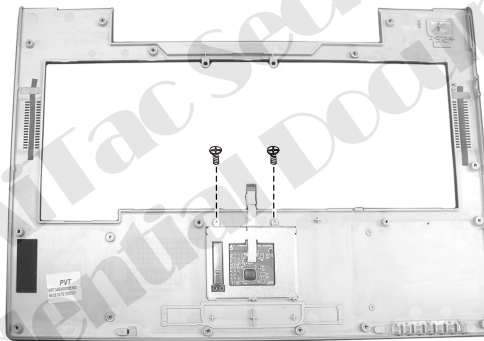

Figure 2-30 Free the touch pad
3. Remove the four screws and lift the shielding, then free the touch pad. (Figure 2-30)